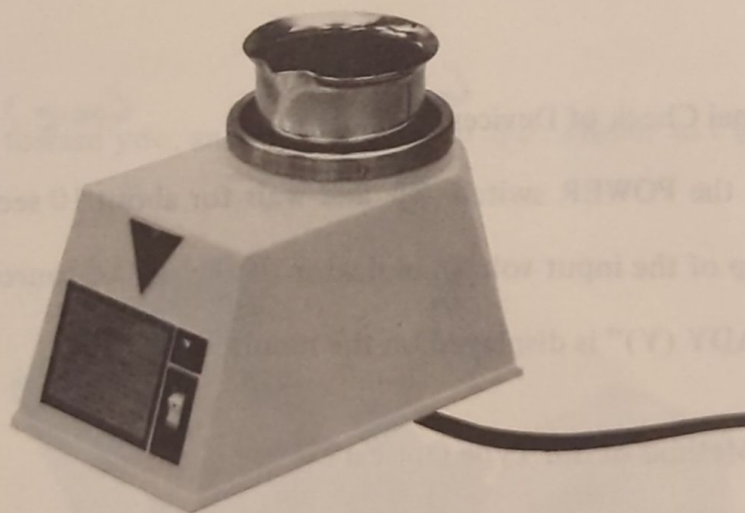

Fig. 12 Setting up the Ultra-sonic Cleaner
- (1) Insert the power cord ④⑦ of the cleaner to the AC out socket ③⑦ of the splicing controller. When the AC power source is 220 to 240V, be sure to apply the voltage step-down transformer.
- (2) Open the enclosing lid and pour water (1 or 2cm height) into the tank.
- (3) Pour Ethyl-alcohol of 2–3cm height into the metallic beaker. Then put it into the tank. (Refer to Fig. 12)